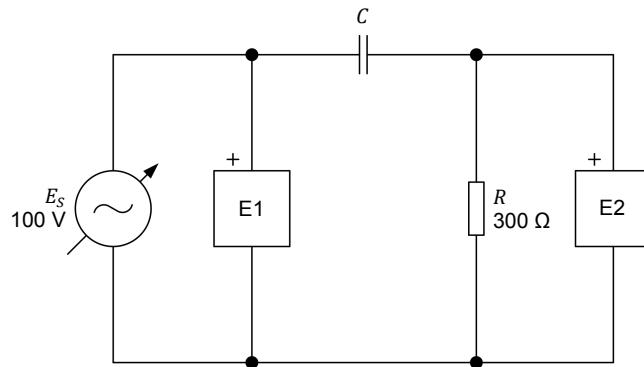

Figure 1-16. AC circuit with a resistor and a capacitor.
- 21.** Modify the circuit so that it is as shown in Figure 1-16 (replace the inductor by a capacitor). This circuit contains a resistor  $R$  and a capacitor  $C$ . Capacitors are studied in the next unit of this manual.
The value of capacitor  $C$  in the circuit of Figure 1-16 is referred to as the capacitance and is expressed in microfarads ( $\mu\text{F}$ ). The capacitance value to be used depends on the frequency of the ac power source as is indicated in Table 1-3.